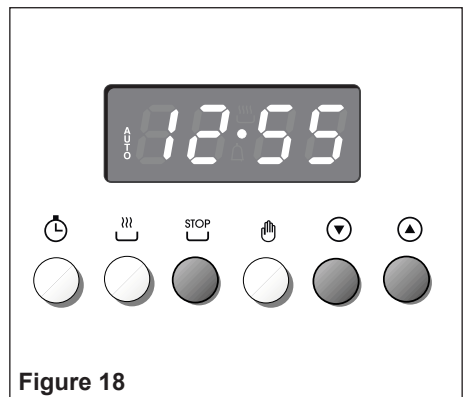

Figure 18
2. Set the end of the cooking time by pressing the  button (the cooking time already added to the clock time will appear), and the  button (fig. 18); if you pass the desired time you may get back by pushing the  button. After this setting, the  symbol will disappear. If after this setting, the **AUTO** flashes on the display and a buzzer sounds, it means there was an error in the programming, that is that the cooking cycle has been superimposed on the clock. In this case, modify the end of cooking time or the cooking period itself by following again the above mentioned instructions.